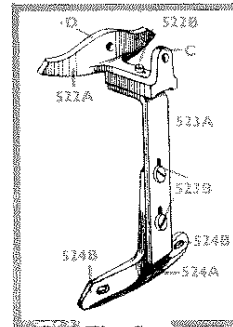

Fig. 7
Fig. 7, the combination yarn-guide and latch-opener (522A), is secured to an upright (523A) by two screws (523B), the screw holes are slotted so that the yarn-guide can be raised or lowered to the required position to suit the needles. The bracket is screwed to the gear-ring at A (Fig. 4). Screw (522B) is to adjust the yarn-guide towards or away from the needles. The yarn is threaded from the back, first through hole (C) then through hole (D).